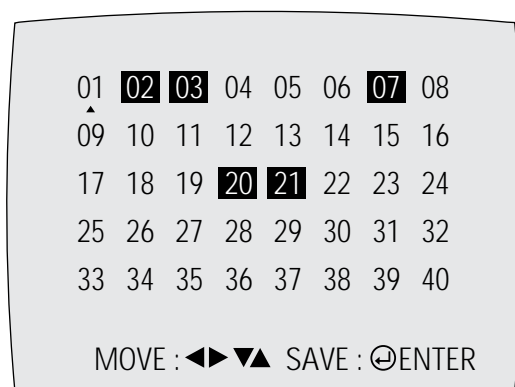

Fig. 4-3
- 2) Press the “1, 4” button on the remote control. The option setting appears. (See Fig. 4-3)